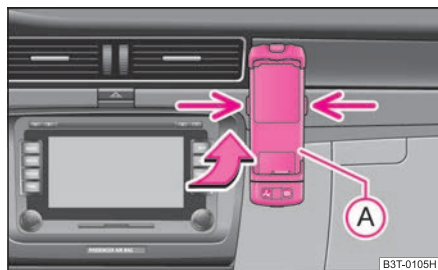

Fig. 139 Universal preparation for the mobile phone
- First of all push the adapter (A) in the direction of arrow ⇒ fig. 139 up to the stop into the mount. Press the adapter slightly downwards, until it locks securely into position.
- Insert the mobile phone into the adapter (A) (as specified in manufacturer's instructions).
- Press simultaneously the side locks of the mount and remove the mobile phone and adapter ⇒ fig. 139.